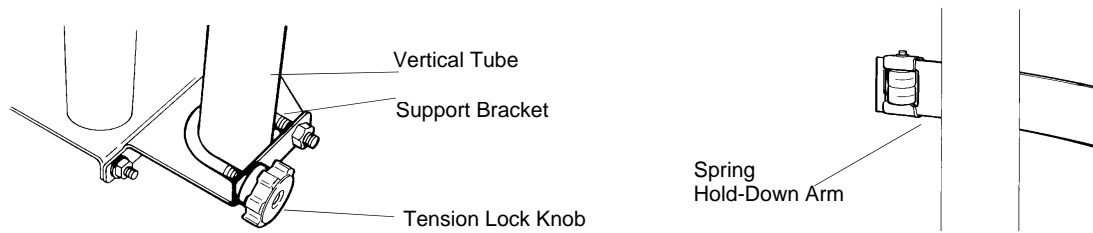

Figure 79: Installing the Hold-Down Bar
1. Attach the top and bottom support brackets (Fig. 79) with four 5/16" x 3/4" (7.9mm x 19.05mm) cap screws and nuts. The top bracket is marked "T" and the bottom bracket is marked "B".
3. Attach the top and bottom tension locks as shown in figure 79.
5. Turn the vertical tube until the spring arms touch the tool frame and then tighten the top and bottom tension locks (Fig. 79).